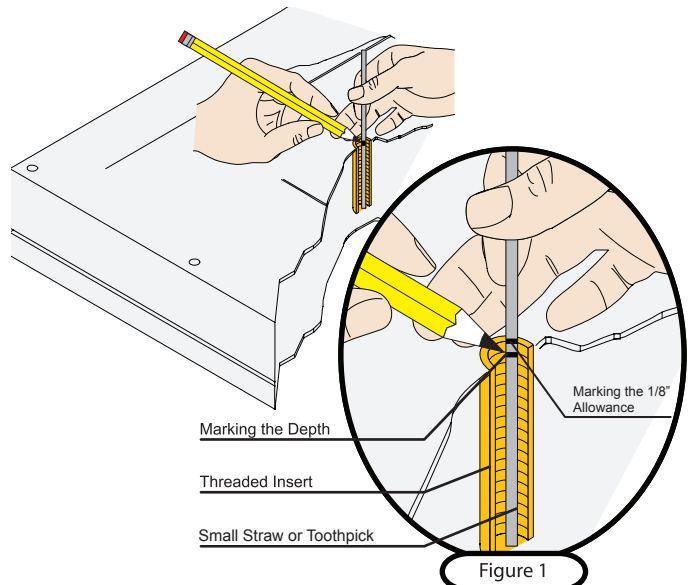

Figure 1
- 3 Mark the straw or toothpick 1/8” above the depth of the threaded insert, as shown in Figure 1.